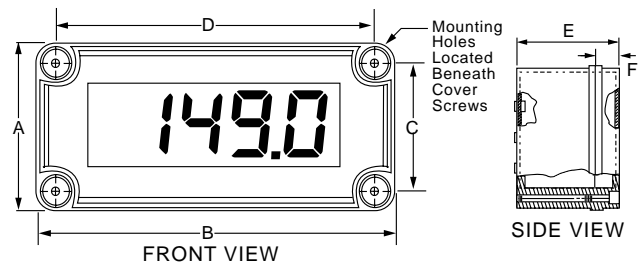

Figure 4
2. Insert mounting hardware into mounting holes in enclosure base (see Figure 4).
Installation of the meter involves removing the Display PCB from its enclosure and connecting a conduit fitting. Use conduit and fittings (not included) suitable for the degree of ingress protection required. Mounting holes are located at each corner of the enclosure. Refer to Figure 4.